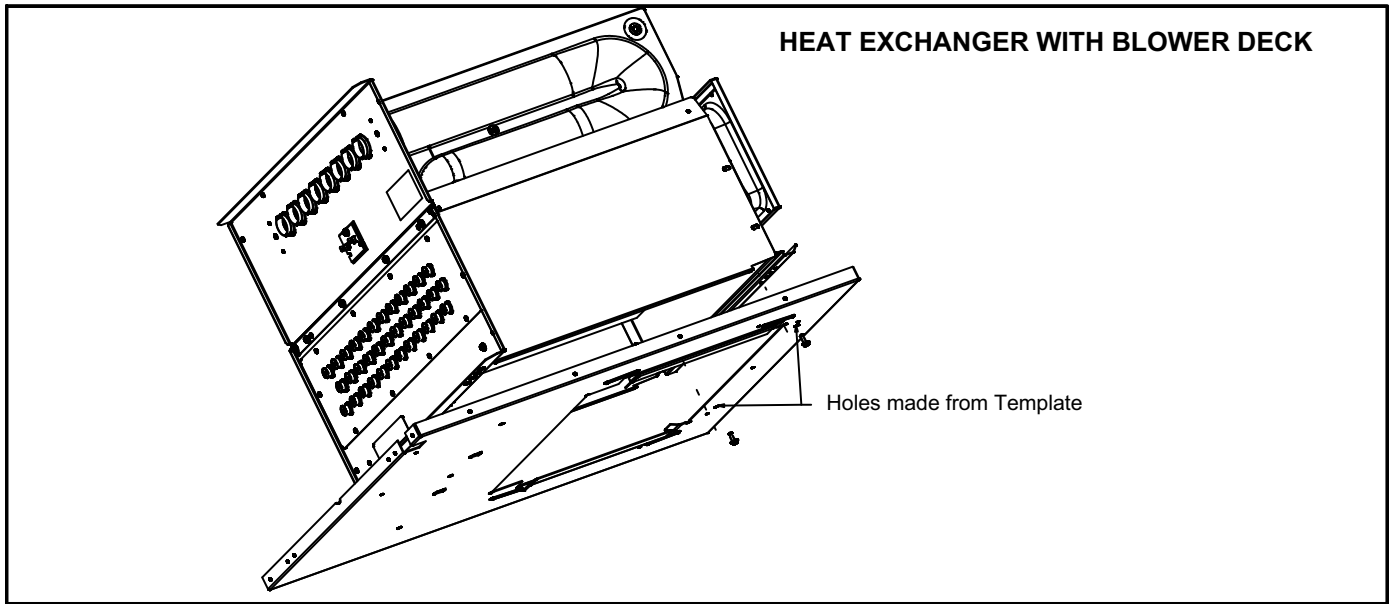

FIGURE 3
- 24 - Secure Heat exchanger to the blower deck using two #8 screws through blower deck first. See figure 3.